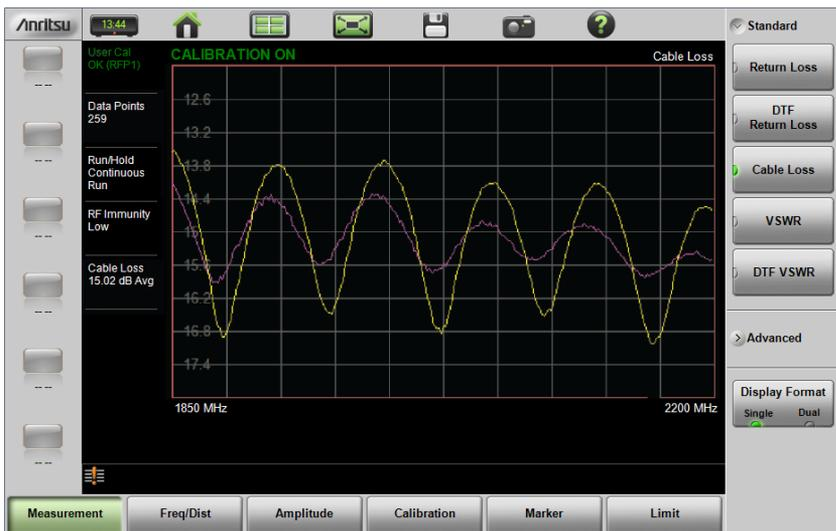

Figure 6-10. Recalled Measurement and Active Trace
6. Figure 6-10 illustrates a recalled measurement and active trace.
The recalled measurement is the purple trace and is overlaid on the current active (yellow) trace. In Figure 6-10, the recalled measurement is used to compare the cable loss of two different RF cables. Recalled measurements are automatically saved to trace memory for use in trace match functions. To see the recalled measurement and the current measurement simultaneously, select **Trace & Memory** in the Trace Display submenu. Refer to “Trace” on page 3-42.